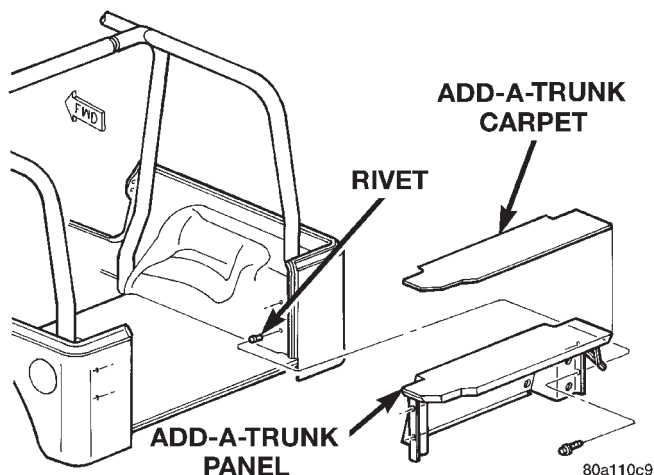

Fig. 66 Add-A-Trunk
(1) Release latches under trunk panel and lift panel up.
(2) Remove bolts attaching trunk to inner body panel (Fig. 66).
(3) Separate trunk from vehicle.